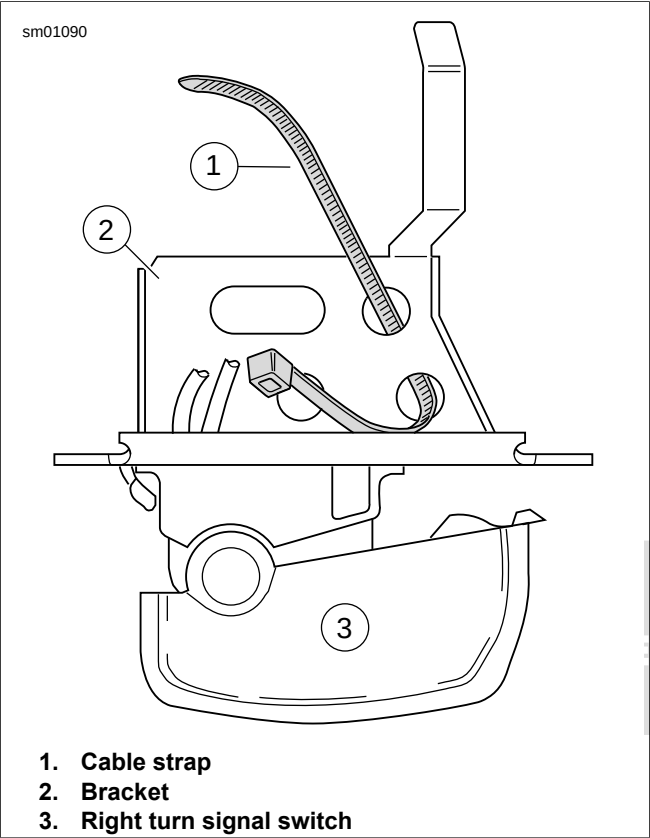

Figure 6-142. Insert Cable Strap in Switch Bracket
1. See Figure 6-142. Insert tapered end of new 7.0 in (177.8 mm) cable strap (1) into round hole in turn signal switch bracket (2) and then feed back through using the adjacent hole. Reserve the oblong hole for the bracket screw.